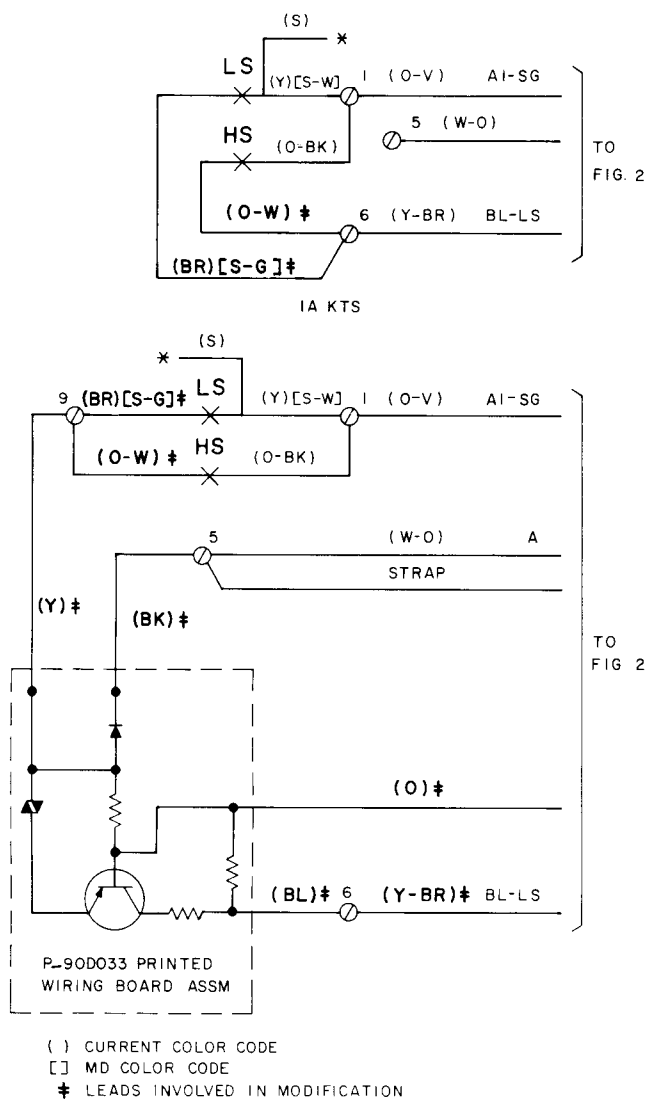

Fig. 3—Station Busy Lamp Modification 1A1-1A2 KTS
- (1) Remove set housing.
- (2) Loosen screws on dial mounting plate, move mounting to left and lift out.
- (3) Remove right-hand dial mounting screw.
- (4) Place dial mounting screw through hole in wiring board and replace screw in dial. Components on board should be positioned so as not to interfere with other set components when dial mounting plate is replaced.
- (5) Replace and secure dial mounting plate.
- (6) Connect printed wiring board as shown in Fig. 3.